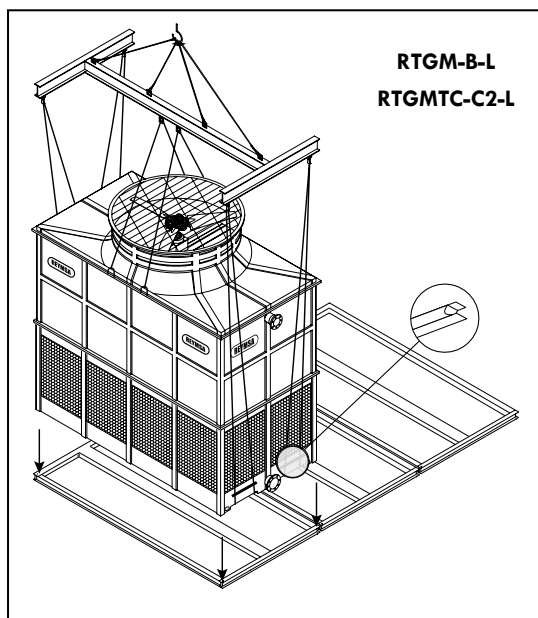
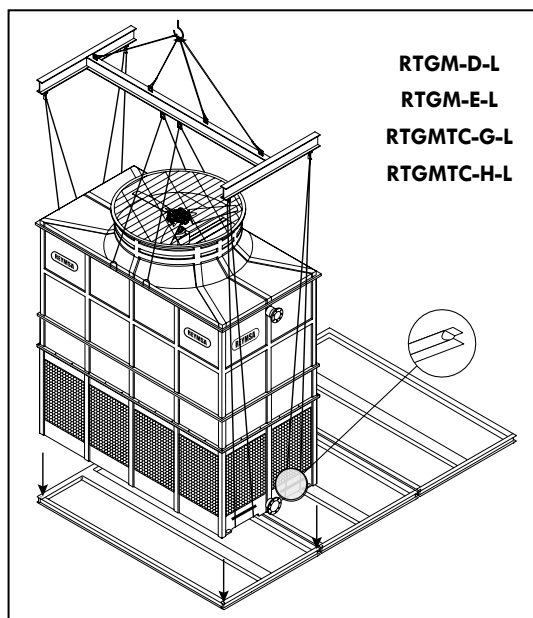
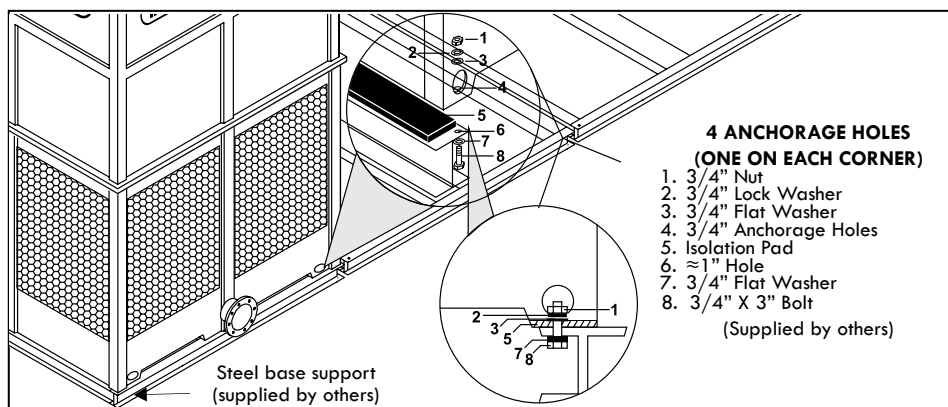

Figure A-93: L-Orientation - First T1 module lifting and installation (RTGM-B-L or RTGMTC-C2-L)
Figure A-94: L-Orientation - First T1 module lifting and installation (RTGM-D-L, RTGM-E-L, RTGMTC-G-L & RTGMTC-H-L)
Figure A-95: Typical anchorage for a modular tower (RTGM or RTGMTC)
- A.** Once the basin and body sections have been assembled, lift the Tower using a crane and a spreader bar and place it on top of the isolation pad and the steel base structure (see Figure A-93 and Figure A-94). Secure it with the galvanized steel nut and bolts sets (supplied by others) as shown on Figure A-95.